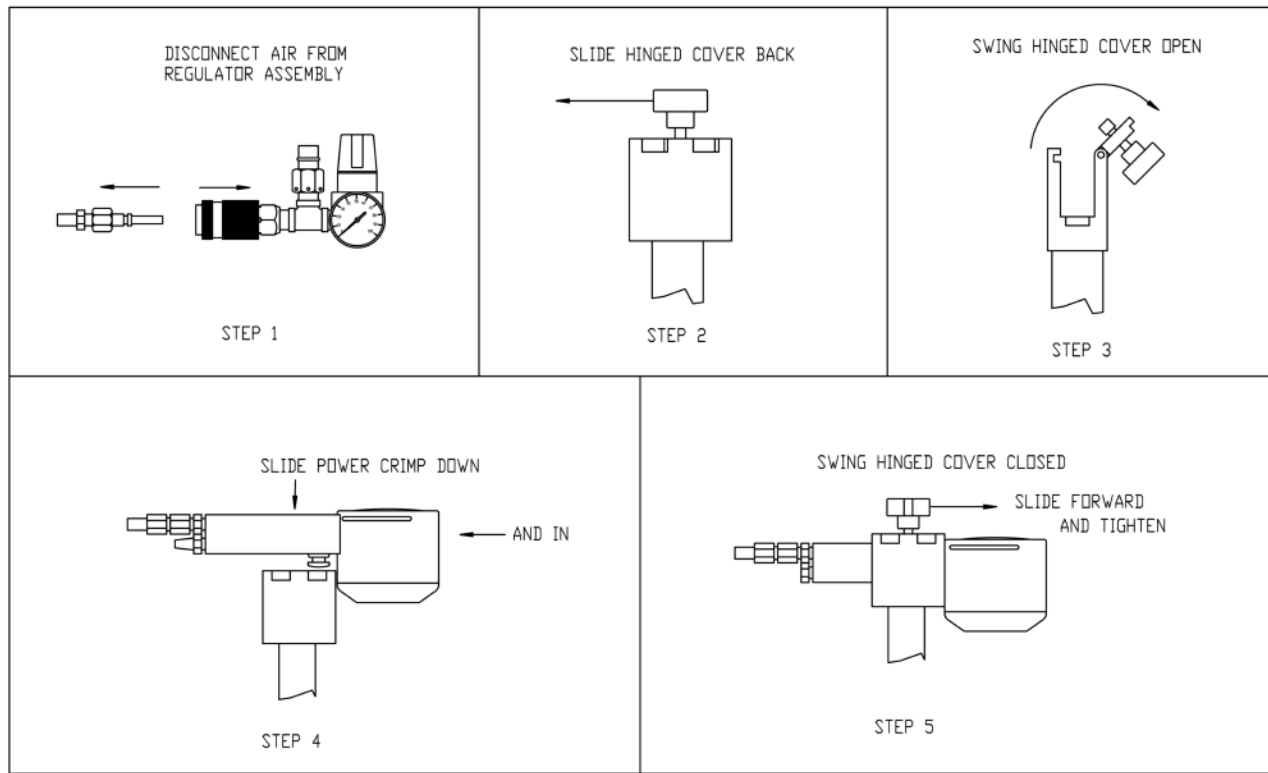

FIGURE 1-5
STEP 1: Set the air pressure to zero psi. Turn the regulator adjustment knob (Figure 1-5) counter clockwise to decrease the air pressure to zero psi.